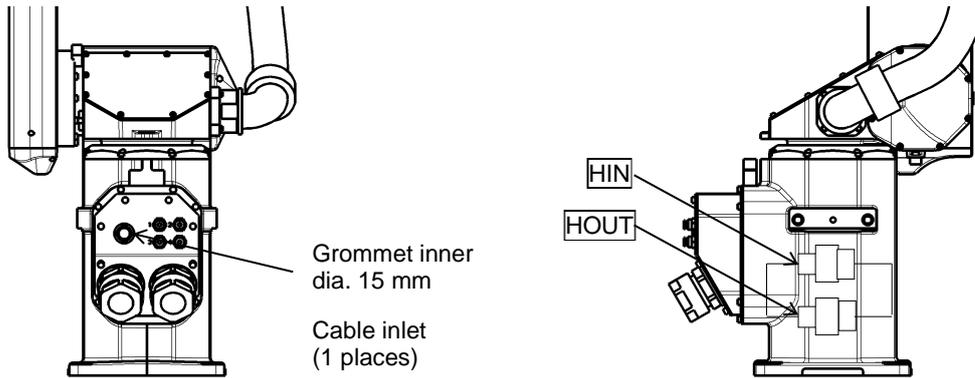

Fig. 12.1. Wiring to PLC, etc.
Four input signals are provided for sensors, etc. and four control signals for solenoid valves, etc. A supply power signal of 24 VDC is also provided. They are connected to the controller. The wiring arrangement for these cables is shown in Fig. 12.1. The wires are connected to the connectors on the arm 2 (1). The customer should provide the following connectors to connect the cables.
If the separately installed sequencer or the like is used for control, remove the connector panel of the base portion and separate the connectors HIN and HOUT on the rear. Then connect the cable of the sequencer or the like through the cable inlet of the connector panel. (See Fig. 12.1.) For ahead of the HIN and HOUT connectors, the user should prepare the following plug connectors and connect the cables. The current is 1 A or less per cable.